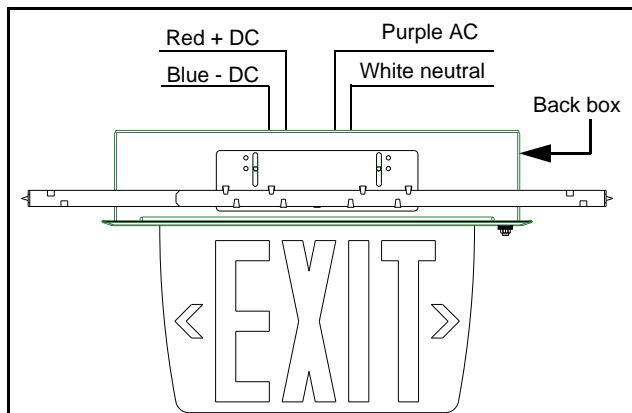

Figure 3 (Regular models)
- b. Make the proper connections (see figure 3). This unit can accept input voltages of 120 VAC to 347 VAC. For regular models connect the purple (line) and white (common) leads to the building utility (Figure 3).